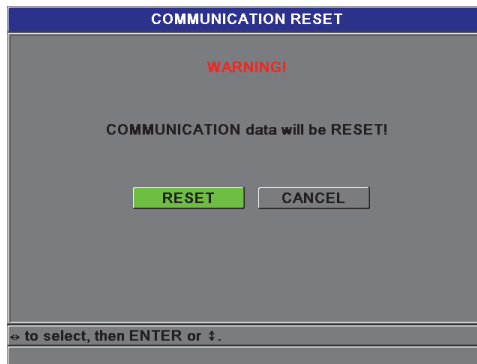

Figure 8-9 The COMMUNICATION RESET screen — Warning message
2. In the **RESET** submenu, select **COMMUNICATION** to display the **COMMUNICATION RESET** screen (see Figure 8-9 on page 149).